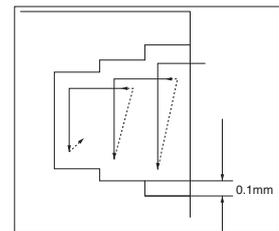

Fig.6
1) When widening the groove width. (Ref. to Fig.6)